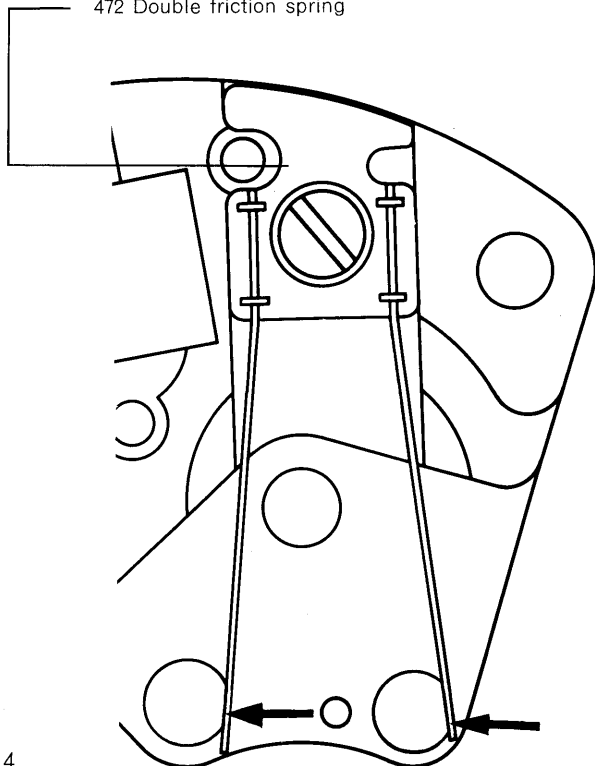

Fig. 6
- 8.1. Check the tension of the double friction spring as shown in fig. 6. The 2 arms of the spring should be tangential to the jewels of the sweep-second wheel and the click wheel. Make sure that the 2 arms of the spring are parallel to the surface of the bridge. Correct if necessary.